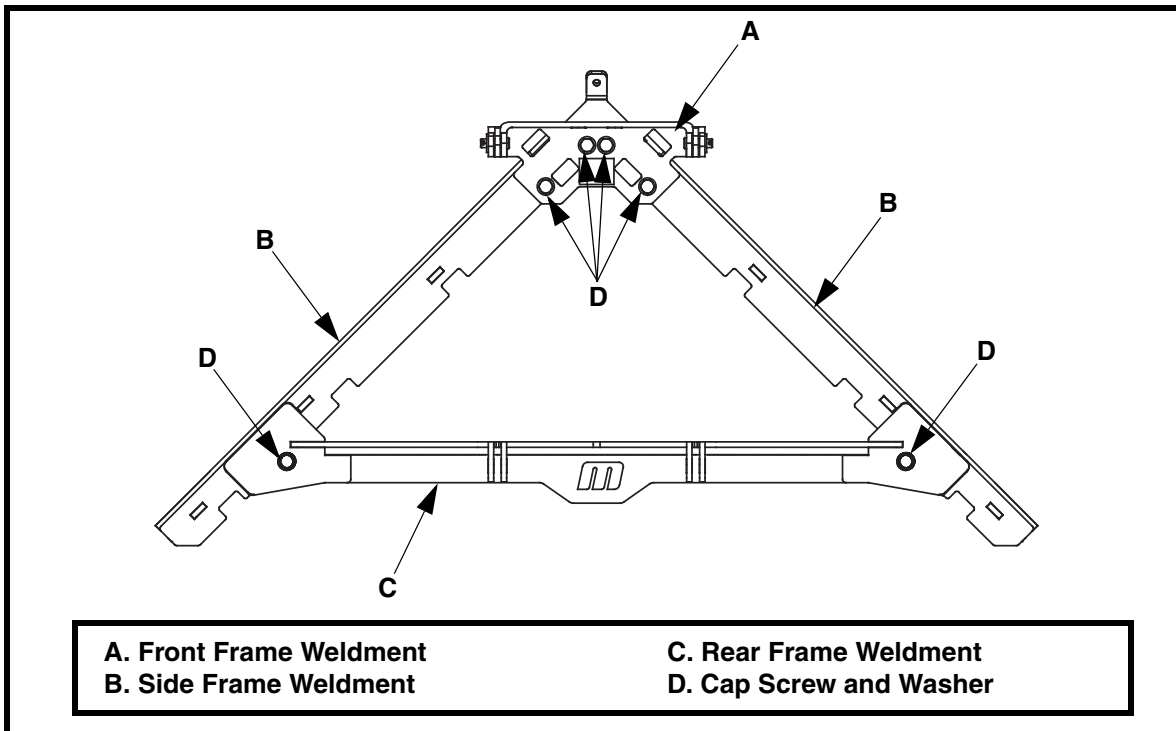

Figure 1. Assembling VPlow
5. Attach a restraining cable from vplow to the conveyor stringers far enough from the tail pulley to prevent vplow from contacting tail pulley in case of equipment failure. Make sure vplow is located according to chart in Figure 1. Leave no more than 2 in. (51 mm) of slack in cable.